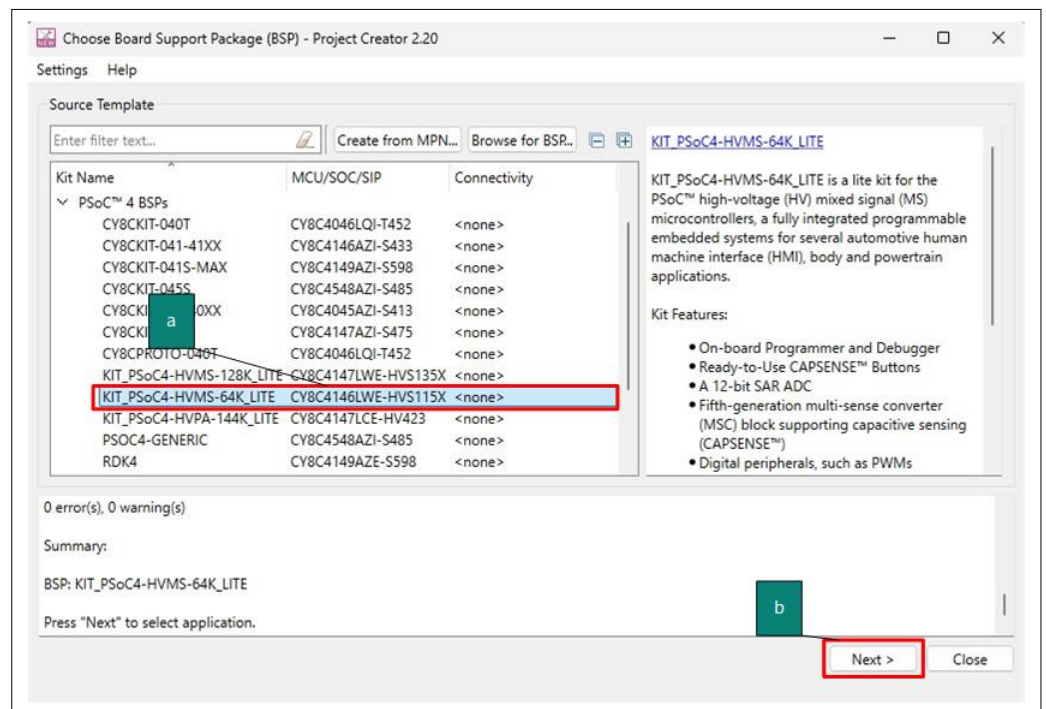

Figure 8 Choose the target hardware
- In the **Choose Board Support Package (BSP)** dialog, choose the **Kit Name** that you have. The steps that follow use **KIT_PSOC4-HVMS-64K_LITE**. See Figure 8 for help with this step